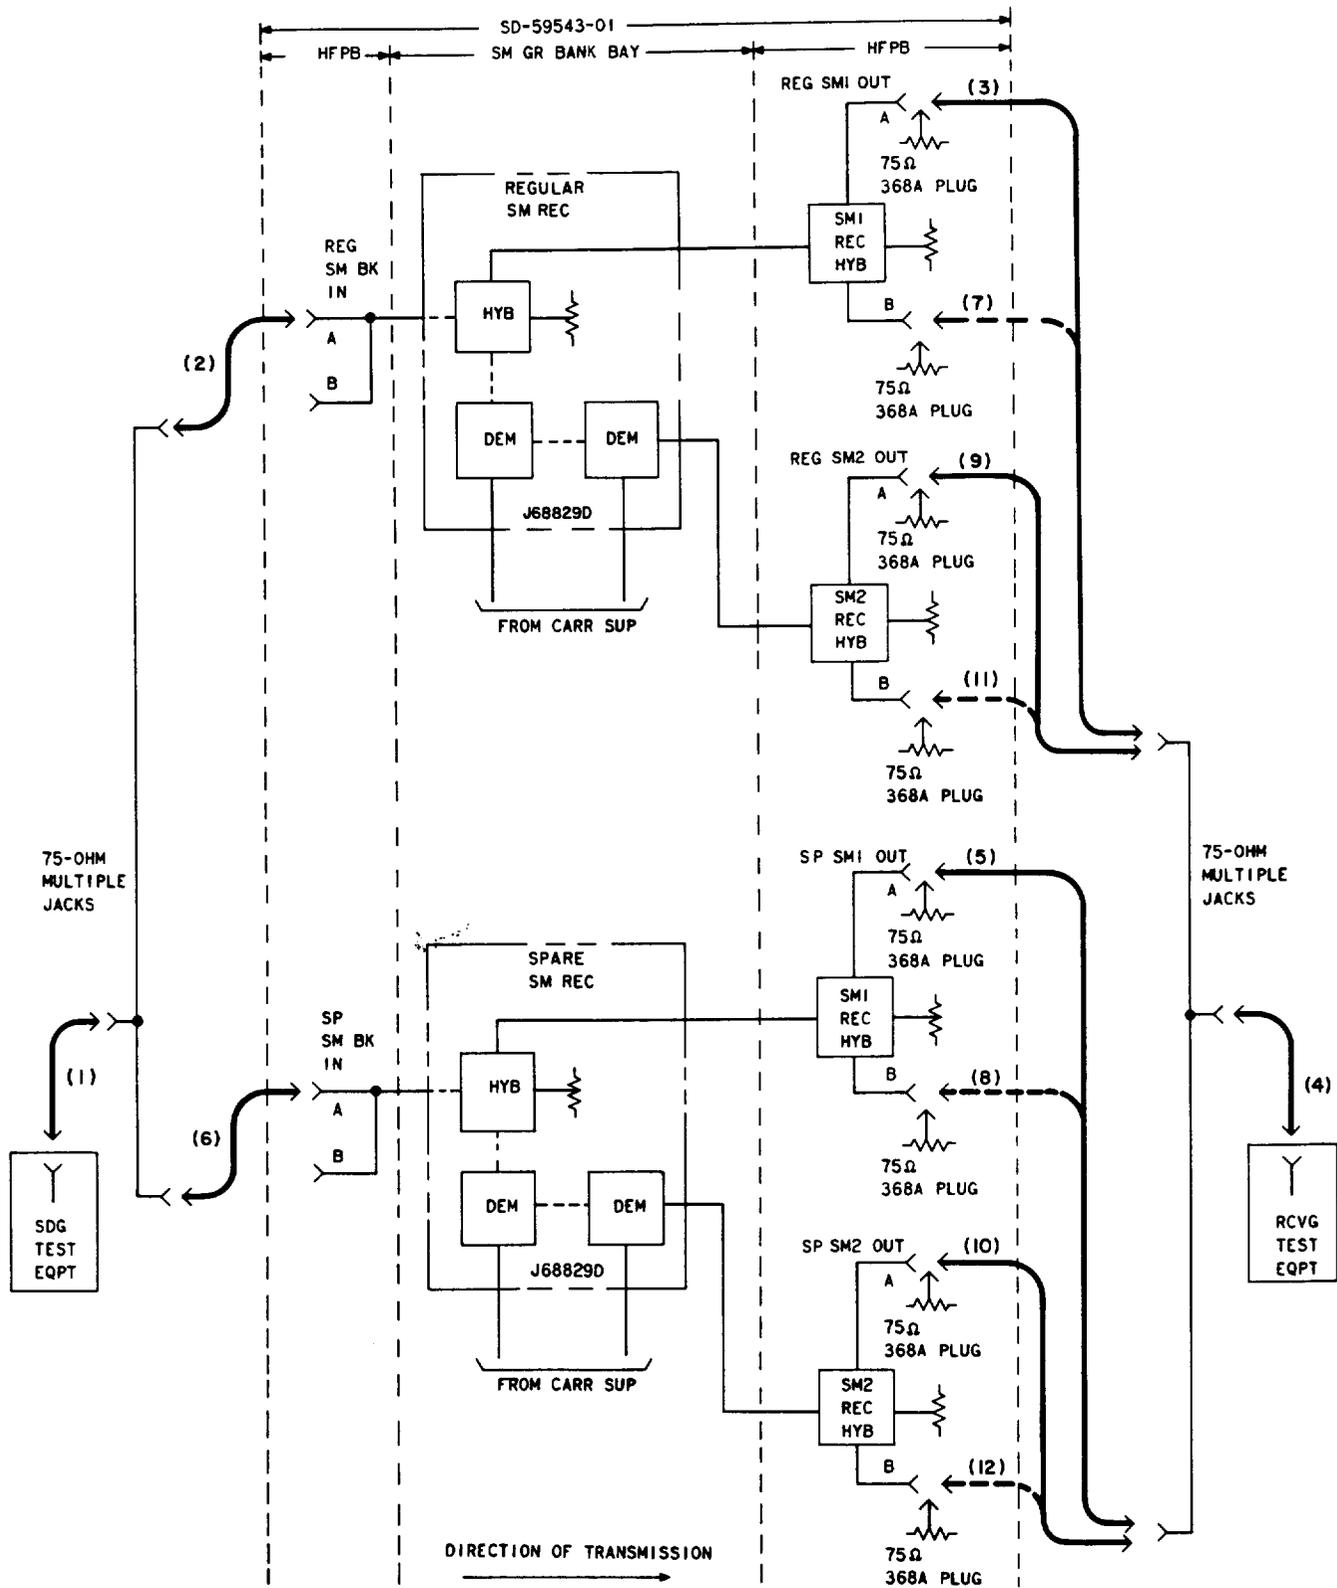

Fig. 1—Receiving Submaster Group Bank Circuits—Turnover Tests
<p>Caution: ♦ This test requires that the regular and spare submaster group equipment panels contain like amplifiers. A loss of level may occur when patches are made between a panel containing a vacuum-tube amplifier and one equipped with solid-state amplifiers.♦</p> <p>Note: If the requirements in this test cannot be met, check the carrier supply and the hybrid coils within the regular and spare receiving submaster group bank circuits for wiring turnover.</p> <p>SUBMASTER 1 GROUP BANK</p> <p>1 Verify that the equipment to be tested is out of service.</p> <p>2 Prepare the RTE (receiving test equipment) for a 75-ohm terminated measurement of 1500 kHz at <math>-21</math> dBm.</p> <p>3 Prepare the STE (sending test equipment) for an output of 1500 kHz at <math>-14</math> dBm.</p> <p>4 Make patches (1), (2), (3), and (4) in Fig. 1.</p> <p>5 Insert 75-ohm 368A plugs in the REG SM 1 OUT B and SP SM 1 OUT B jacks.</p> <p>6 Measure and record the level of the 1500-kHz signal at the REG SM 1 OUT A jack.</p> <p>Requirement: Approximately <math>-21</math> dBm.</p> <p>7 Make patches (5) and (6) in Fig. 1.</p> <p>8 Measure the 1500-kHz level of the multiplied submaster 1 group bank circuits.</p> <p>Requirement: A decrease of not more than 2.5 dB from the value recorded in Step 6.</p>
9	Remove patches (3), (5), and (6) in Fig. 1.
12	Make patch (7) in Fig. 1.
14	Make patches (6) and (8) in Fig. 1.
16	Remove patches (6), (7), and (8) in Fig. 1.
20	Make patch (9) in Fig. 1.
23	Make patches (6) and (10) in Fig. 1.
25	Remove patches (6), (9), and (10) in Fig. 1.
28	Make patch (11) in Fig. 1.
30	Make patches (6) and (12) in Fig. 1.